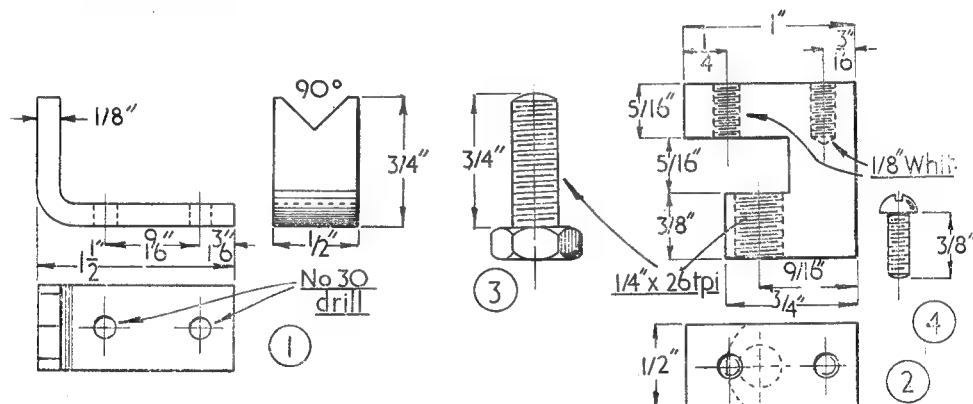

Fig. 2. Working drawings of the grinding rest
The general arrangement drawing, or in this case the photograph in Fig. 1, is intended to show the worker what he has to make, and the working drawings in Fig. 2 give the dimensions of all the parts. The V-rest, part (1), is made from a length of  $\frac{1}{2}$ -in.  $\times$   $\frac{1}{8}$  in. mild-steel strip, and before being cut to length, the position of the screw holes should be marked-out as already described and then drilled  $\frac{1}{8}$  in., but if it is found that these drill holes do not allow the  $\frac{1}{8}$ -in.
It will be noticed that in the drawing in Fig. 2, showing the upper surface of the clamp, a curved broken line appears; this is the conventional way of indicating that a part lying underneath, namely the limb of the clamp, is formed with a